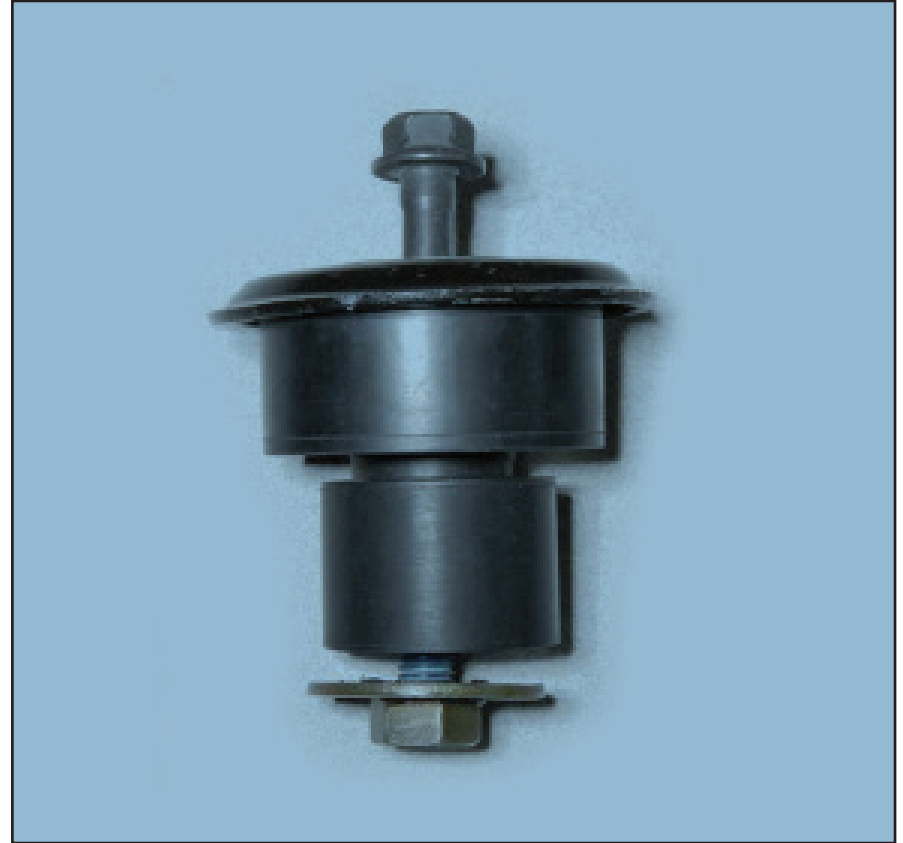

Figure 26
- Use spring-loaded, angle-type mountings (Figures 26 & 27). They may be bolted or welded to the body sill. However, always use bolts to attach them to the frame side rail. Do not weld directly on the frame side rail. Position mountings to allow a clearance of at least 6 mm (0.25 in.) between upper and lower brackets. Use SAE Grade 8 or Class 10.9 metric bolts with PTN nuts. Spring-loaded mounting bolts also require PTN nuts. The springs should be as short as practical, allowing preloading which will help prevent excessive “body roll” during operation, and a minimum of 25 mm (1 in.) at the front of the body before becoming solid.